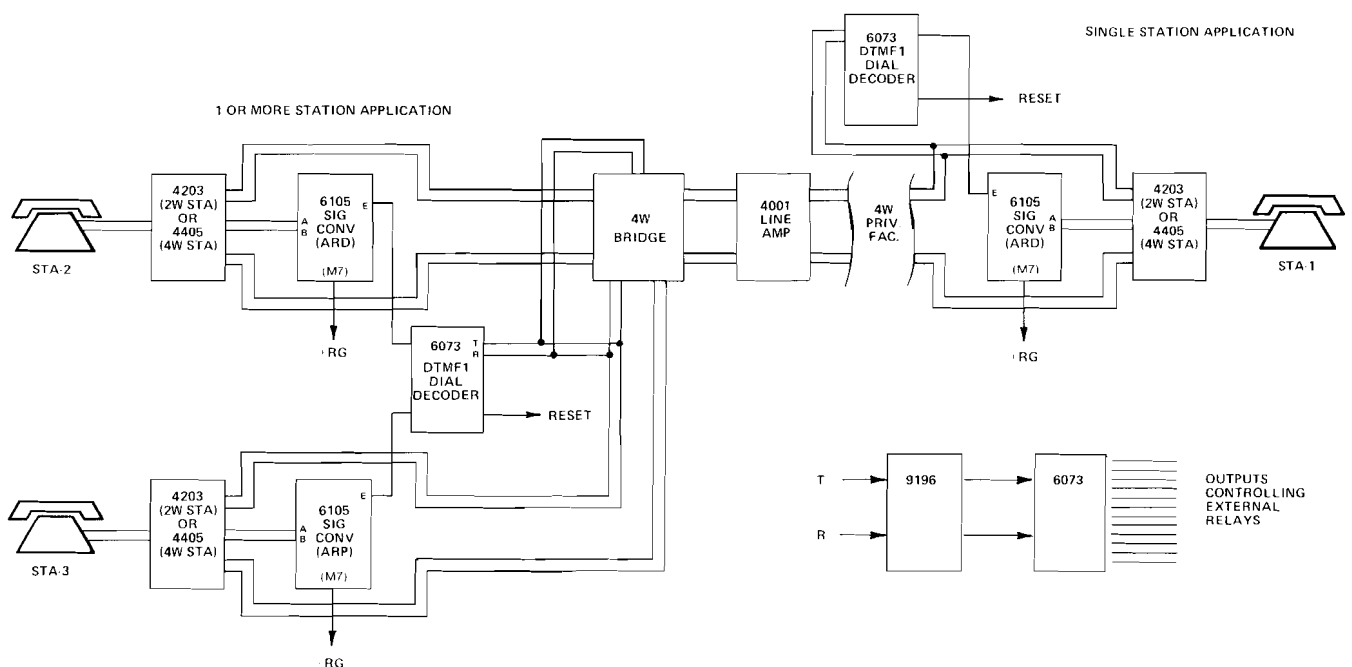

figure 2. Typical 4Wire selective signaling application
2.03 Figure 2 shows a typical 4wire selective signaling application. In this example, the 6073, in conjunction with Tellabs' 4001, 4203, and 6105 modules, provides a multistation selective signaling network over a private 4wire facility. Each 6073 module can provide 1, 2, or 3-digit selective signaling for up to 12 stations in the network. For further information on this application, contact Tellabs Technical Marketing Services group at (312) 969-8800.